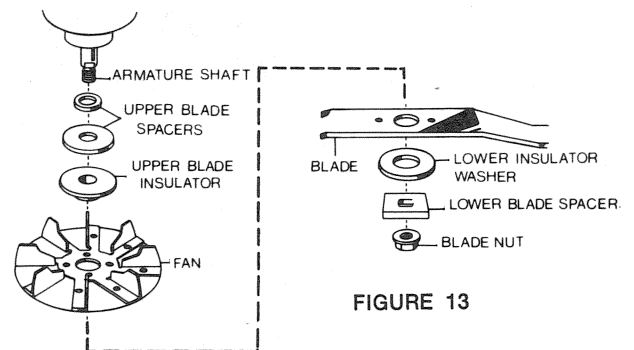

FIGURE 13
4. Remove lower blade spacer, lower insulator washer and blade (Figure 13).